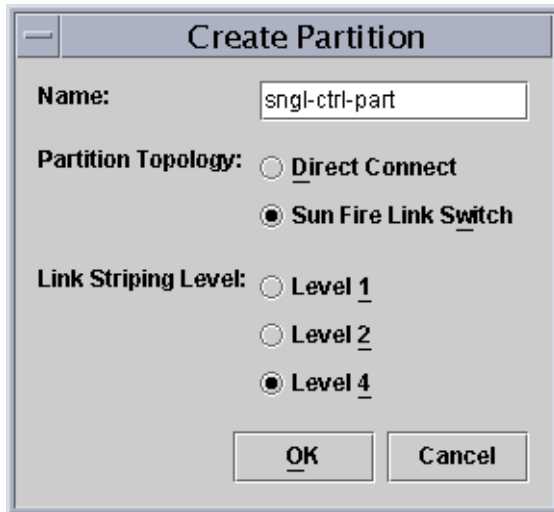

FIGURE 6-6 Create Partition Dialog
2. **Fill in the Create Partition fields and click OK when finished. See FIGURE 6-6.**